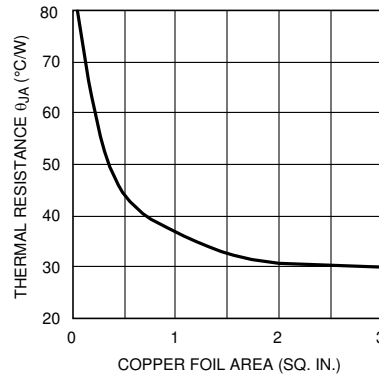

图 6-4. Thermal Resistance (Typical) for 7-L DDPACK Package Mounted on 1 oz. (0.036 mm) PC Board Foil
5. Choose a copper area that will ensure the specified  $T_{J(MAX)}$  for the calculated  $\theta_{JA}$ .  $\theta_{JA}$  as a function of copper area in square inches is shown in Figure 6-4.
4. Finally, using this value for  $\theta_{JA}$  choose the minimum value of copper area from Figure 6-4.
Examining 图 6-4, we see that we cannot attain this low of a thermal resistance for one layer of 1 oz copper. It will be necessary to derate the part by decreasing either the ambient temperature or the power dissipation. Other solutions are to use two layers of 1 oz foil, or use 2 oz copper (see 表 6-1), or to provide forced air flow. One should allow about an extra 15% heat sinking capability for safety margin.